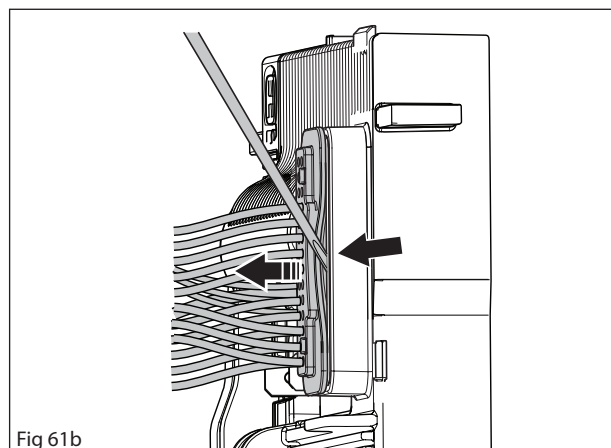

Fig 61b
- Carefully insert a small flat screwdriver between the silicone gasket and the control unit frame. See figure 61b.